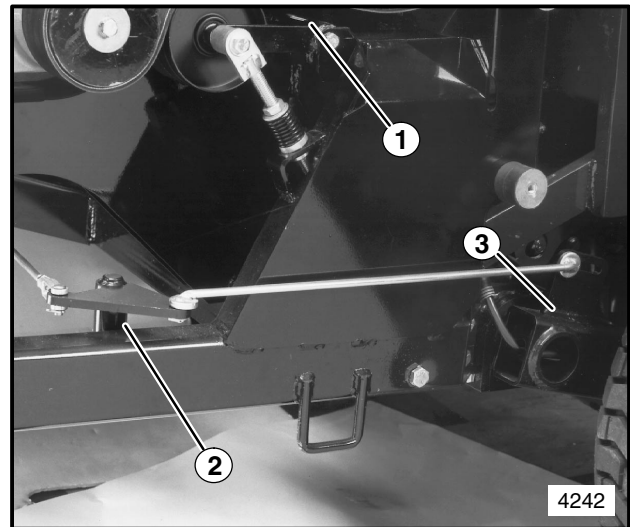

Figure 2
Three (3) fittings are located on the rear axle yoke assemblies. Refer to Figure 2 for lubrication points.